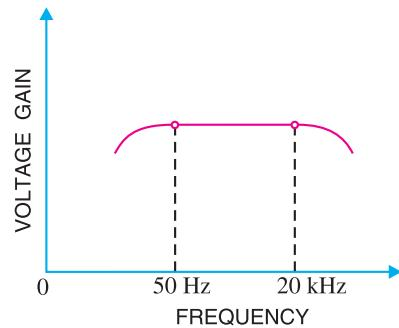

Fig. 11.10
**Frequency response.** Fig. 11.10 shows the frequency response of a typical  $RC$  coupled amplifier. It is clear that voltage gain drops off at low ( $< 50$  Hz) and high ( $> 20$  kHz) frequencies whereas it is uniform over *mid-frequency* range (50 Hz to 20 kHz). This behaviour of the amplifier is briefly explained below :